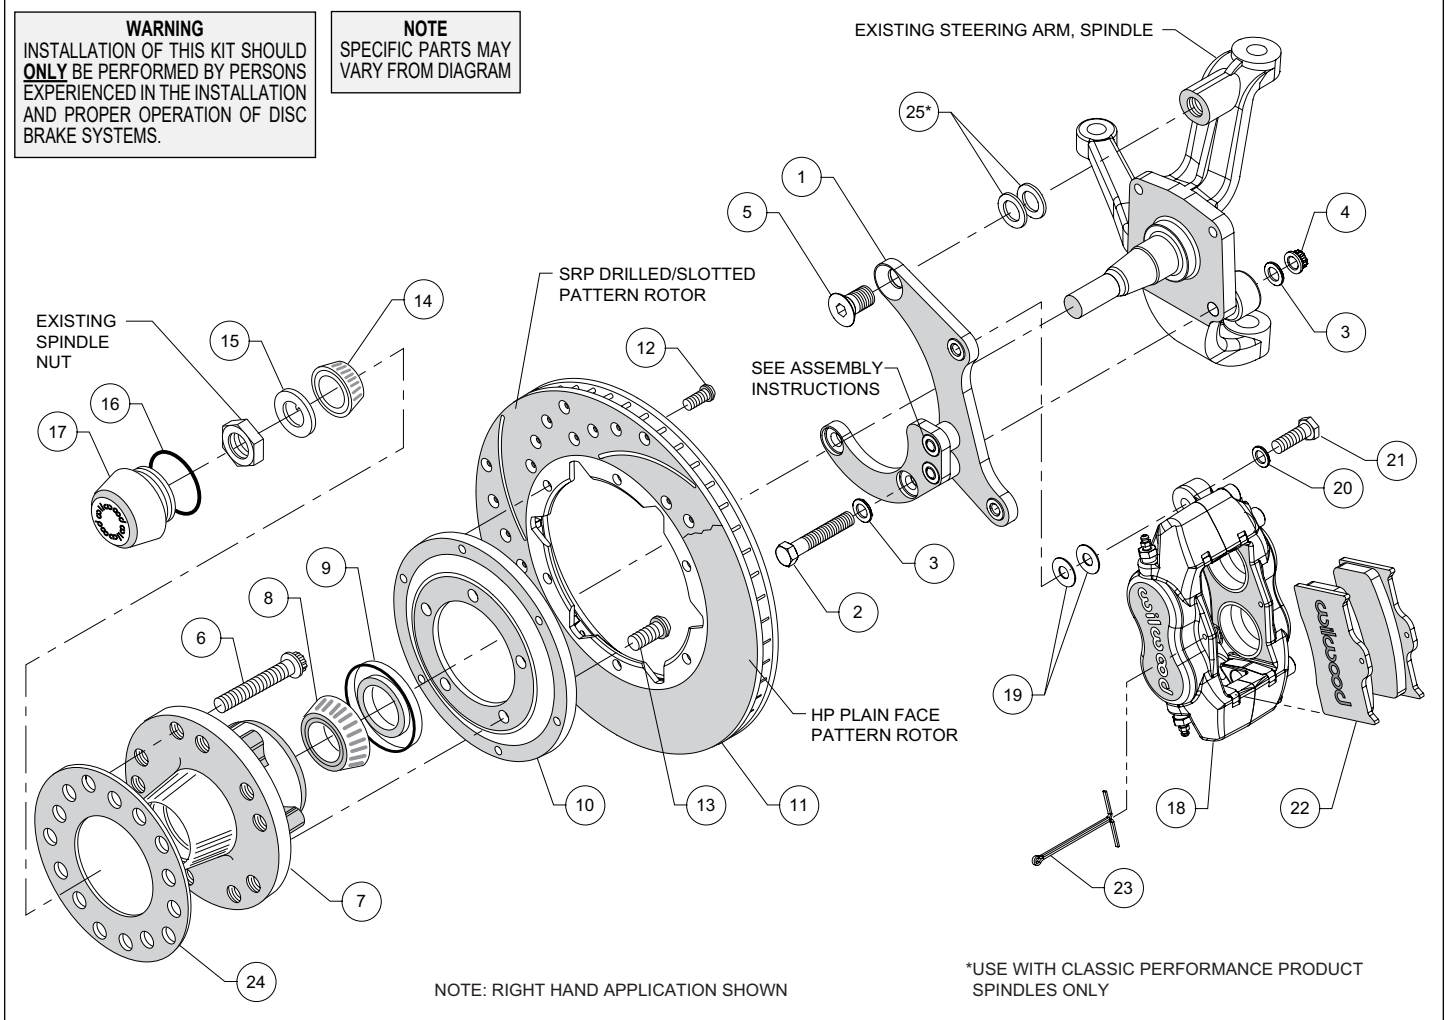

Figure 1. Typical Installation Configuration
•**NOTE:** Numbers in parenthesis refer to the parts list on the preceding page and Figure 1.
•The caliper mounting bracket (1) has been assembled at the factory for alignment purposes. Loosen the two bolts that secure the brackets together so that the bolts are hand tight only, this will enable the bracket assembly to be adjusted to accommodate various spindle tolerances during assembly. Orient the bracket as shown in Photo 1 and Figure 1, and install to lower mount holes using bolts (2), washers (3), and lock nuts (4), Figure 1 and Photo 1. Do not tighten yet.
- For Classic Performance Products spindles only:** Initially use two .024" thick shims (25) on upper mount bolt between bracket and spindle, Figure 1. While test fitting bracket assembly per the instructions below, check that the bracket is parallel to the rotor. If not, add or subtract shims (25) between the bracket and spindle.
- Install bolt (5) in the upper bracket hole. Temporarily tighten all of the bracket mounting bolts. Ensure that the flanged heads of the clinch nuts in the bracket are facing outboard, Photo 1. **NOTE:** The bracket must fit squarely against the mounting points on the spindle. Inspect for interference from casting irregularities, machining ridges, burrs, etc. Torque lower lock nuts to 47 ft-lb. Remove the upper bolt, apply red *Loctite*® 271 to threads, and torque to 140 ft-lb. Remove one at a time the bolts that secure the bracket assembly to each other, apply red *Loctite*® 271 to the threads and torque to 40 ft-lb.
- Pack the large inner bearing cone (8) with high temperature disc brake bearing grease (available from your local auto parts store) and install into the backside of the hub (7), Photo 3.
- Install the grease seal (9) by pressing into the backside of the hub (7), flush with the end of the hub, Photo 3.
- Orient the rotor (11) and the rotor adapter (10) as shown in Figure 1 and Photo 4. Attach the rotor to the adapter using bolts (12). Using an alternating sequence, apply red *Loctite*® 271 to the threads, and torque to 25 ft-lb.
- Mount the adapter/rotor assembly (10/11) to the hub (7) using bolts (13), as shown in Figure 1 and Photo 5. Using an alternating sequence, apply red *Loctite*® 271 to the threads, and torque to 45 ft-lb.
- Pack the small outer bearing cone (14) with high temperature disc brake bearing grease and install into hub (7). Slide the hub/rotor assembly onto the spindle. Secure using spindle washer (15) and OEM spindle nut, Photo 6. Bearing adjustment: Tighten the nut while turning the hub. When there is a slight bind on the bearings, they are seated correctly. Back the nut off about 1/6 to 1/4 of a turn, or sufficiently to allow .001" to .007" end play. **WARNING:** Failure to back off adjusting nut could cause bearing to run hot and be damaged, which could cause the wheel to lock or come off. Install OEM spindle nut retainer and new cotter pin (not supplied).
- Screw dust cap (17) into hub (7), Photo 7. Friction created by the o-ring (16) on the dust cap keeps it from unscrewing. **NOTE:** The O.D. of the existing OEM spindle washer may be larger than the I.D. of the dust cap not allowing it to seat against the hub face. Therefore, use the spindle washer (15) supplied with the kit instead of the OEM washer.
- NOTE:** Please reference the caution statement at the beginning of the assembly instructions. Mount the caliper (18) onto the caliper mounting bracket (1) using bolts (21) and washers (20), as shown in Figure 1. Initially place two .035" thick shims (19) on each bolt between the caliper and the bracket, Photo 8. Temporarily tighten the mounting bolts and view the rotor (11) through the top opening of the caliper. The rotor should be centered in the caliper, Photo 9. If not, adjust by adding or subtracting shims between the bracket and the caliper. Always use the same amount of shims on each of the two mounting bolts. **NOTE:** The end of each bolt must be flush with or slightly